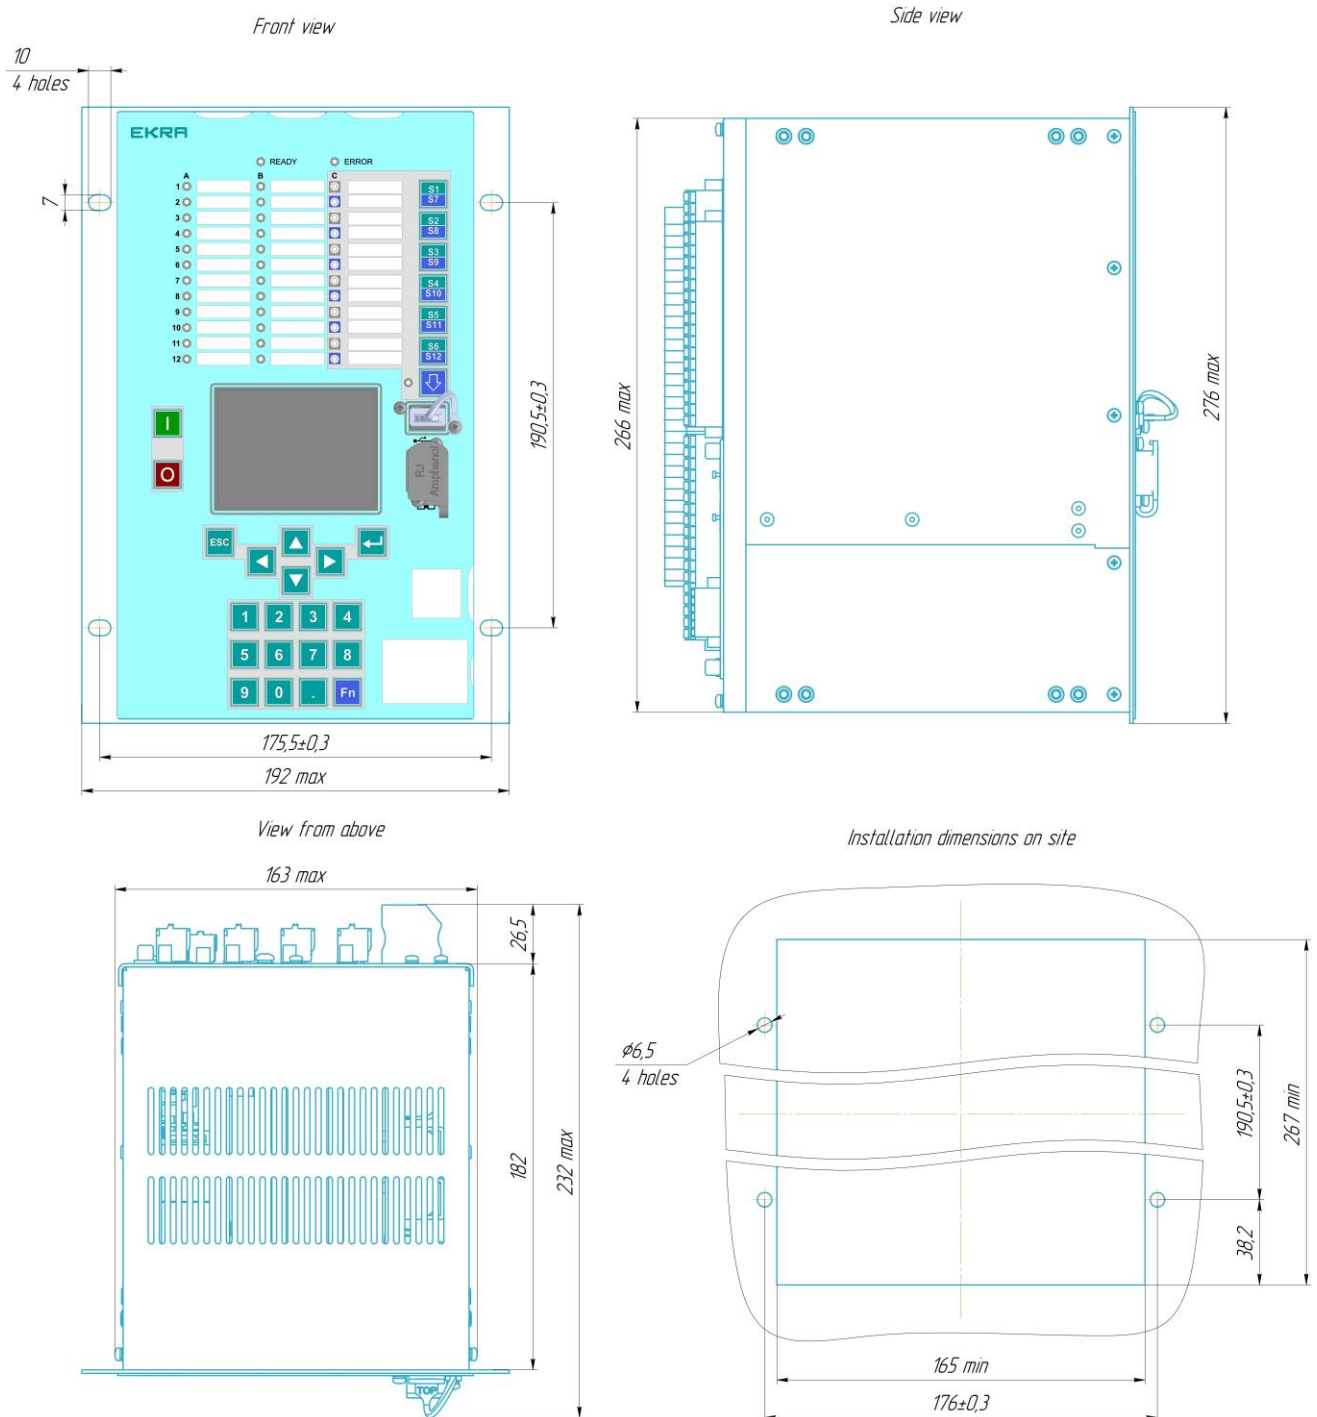

Figure 9 – General view, overall and installation dimensions of the ED2 devices of 1/3 19" design
5.9.1 General view, overall, installation dimensions of the ED2 devices of 1/3 19" design are shown in figure 9.